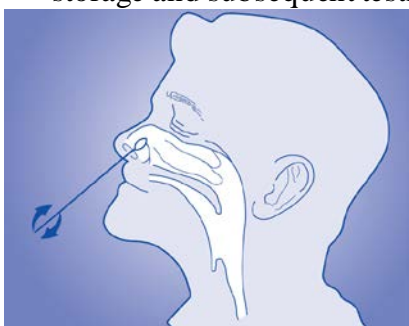

Figure 1: Nasal specimen collection
- Insert the swab into one nostril of the patient. The swab tip should be inserted until resistance is felt at the level of the turbinates (less than one inch into the nostril). Roll the swab 5 times along the mucosa inside the nostril to ensure that both mucus and cells are collected (Figure 1). Take approximately 15 seconds to collect the specimen.